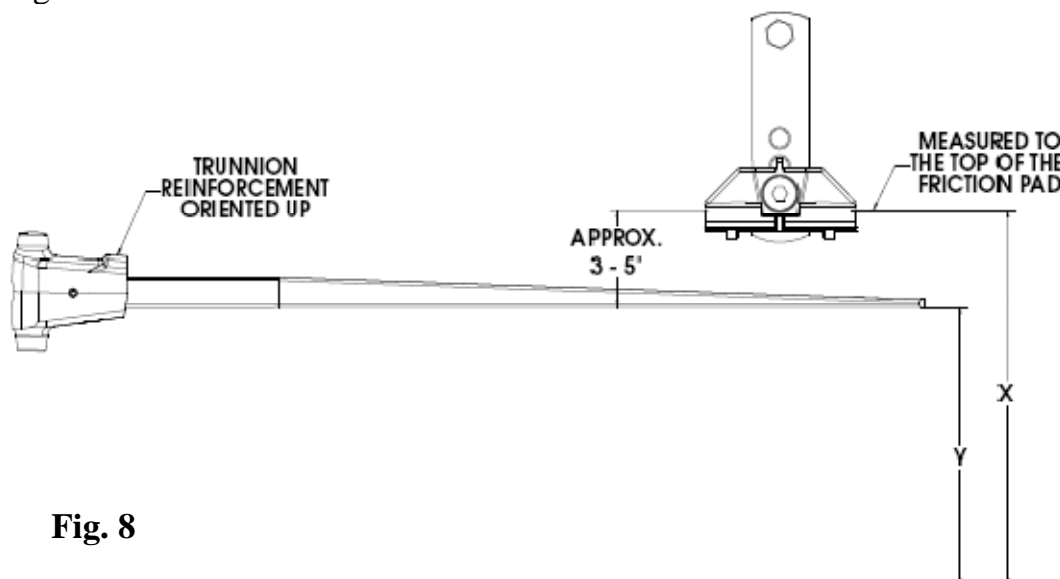

Fig. 8
- Level the trailer. Measure and record the distance from the ground to the top of the friction pad (X dimension Fig. 8).
- Install spring bar - Orient the spring bar/trunnion assembly with the trunnion reinforcement to the top (rating label side up) shown in Fig. 8. Set the bottom pin of the trunnion into the lower socket of the ballmount and slide the top trunnion pin into the top slot in the ballmount. Spring bar/trunnion assemblies will fit on either side.
- As a starting point, the spring bar height "Y", shown in Fig 8, should be approximately 3 to 5" less than the friction pad height "X".
- Install spring bars - orient the spring bar/trunnion assembly with the trunnion reinforcement facing up as shown in Fig 8. Set the bottom pin of the trunnion into the lower socket of the ballmount and slide the top trunnion pin into the top slot in the ballmount. Spring bar/trunnion assemblies will fit on either side.
- Using the tongue jack, raise the tongue of the trailer and rear of vehicle as high as possible and attempt to set spring bars on top of pad hangers. If bars will not swing over the pad hanger, use of the lift handle (W) will be required.